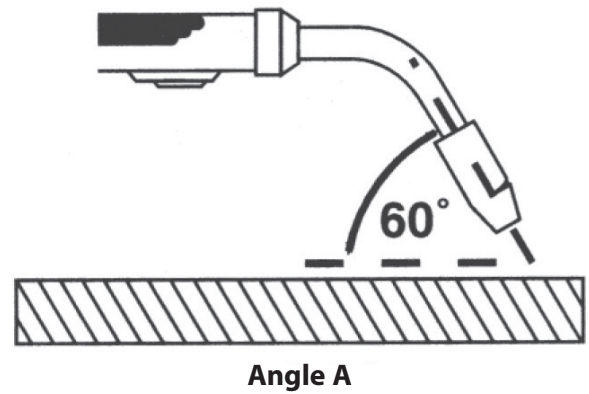

Figure 8. Gun Position, Angle A
Change the polarity of your welder according to the following procedure steps. Figure 8 shows what the polarity block should look like for each polarity setting.
1. Angle A (Figure 8) can be varied, but in most cases the optimum angle will be 60 degrees. The point at which the gun handle is parallel to the work piece. If angle A is increased, penetration will increase. If